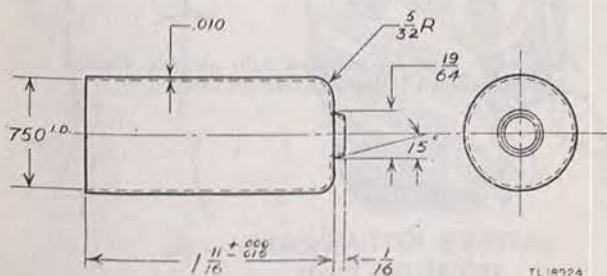

Figure 28. Tube shield dimensions, Radio Receiver and Transmitter BC-611-(\*).
(8) *Tube shields.* Tube shields must conform with dimensions shown in figure 28 and must be clean and not dented.